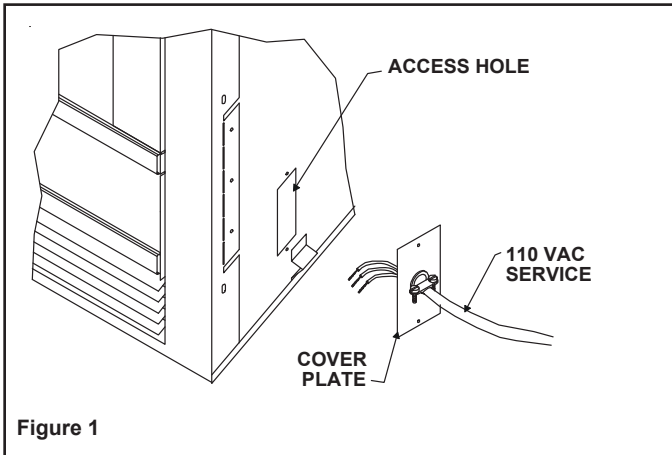

Figure 1
1. Remove the electrical cover plate from the lower side of the fireplace. Remove the knock-out from the plate and attach the Romex clamp (screws to the outside) (see Figure 1).